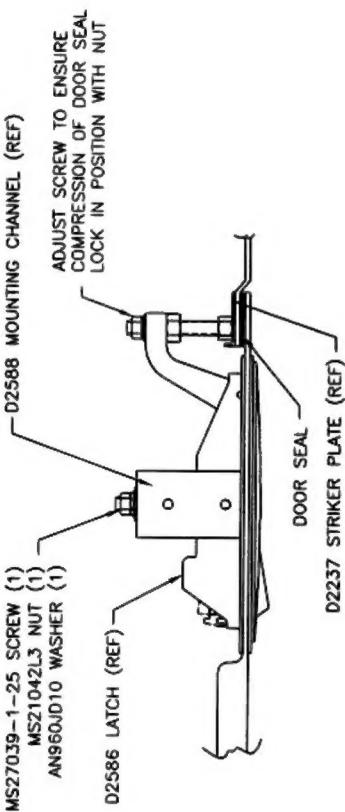

FIGURE 2: TYPICAL LATCH INSTALLATION
10. INSTALL D2586 LATCH AND D2982-041 PROP ARM ASSEMBLY PER FIGURE 2 AND 3.